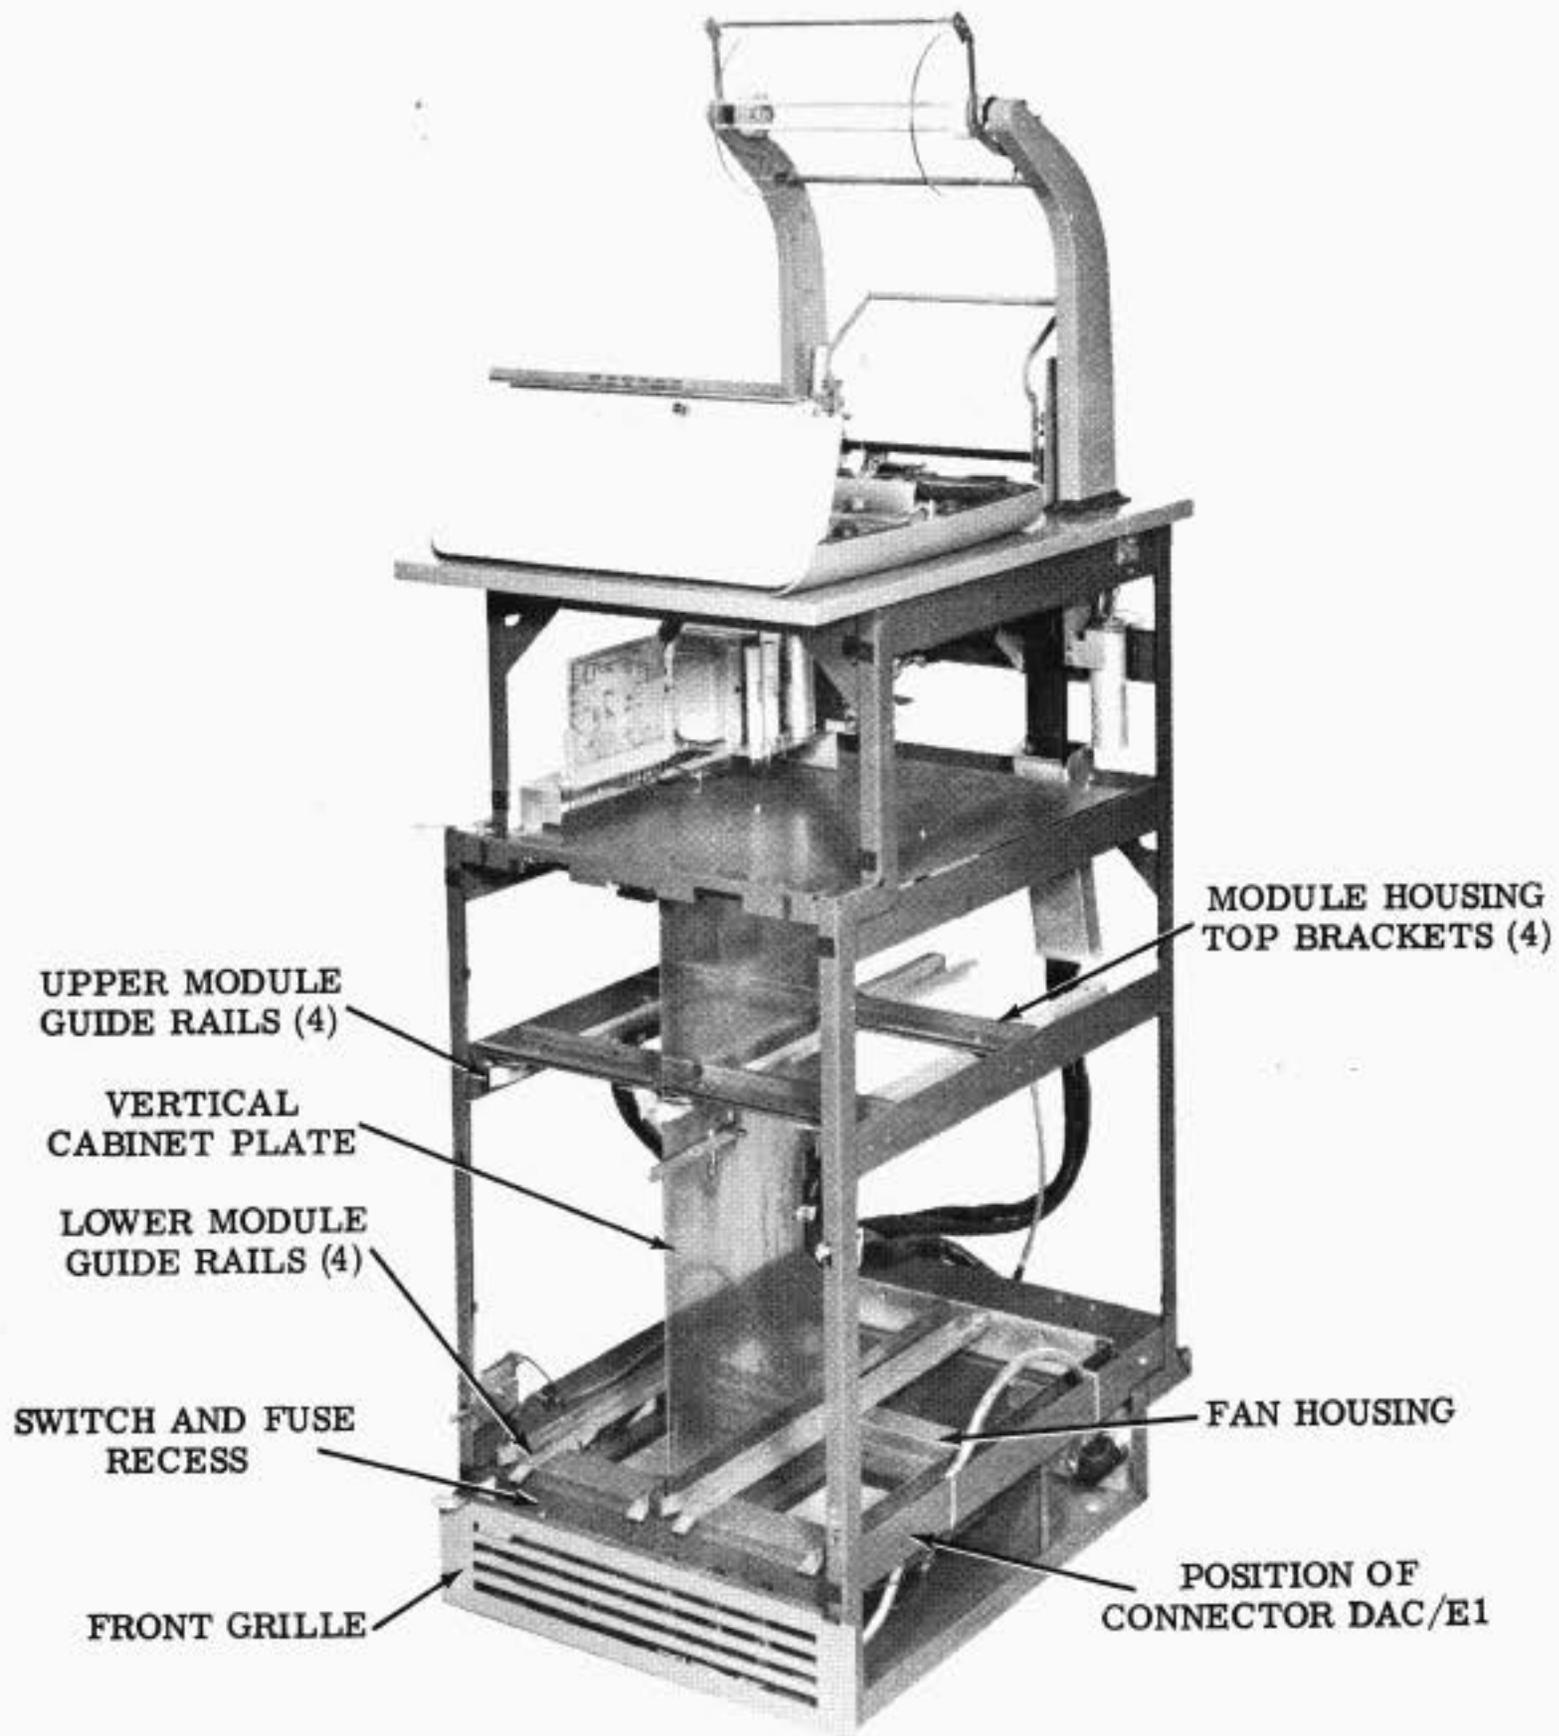

Figure 11 - Printer Frame With Panels and Doors Removed and Modules Out of Housing to Permit Access to Fan Housing
2.36 The two ventilating fans are mounted in a housing at the bottom of the printer cabinet (Figure 11). These fans circulate air